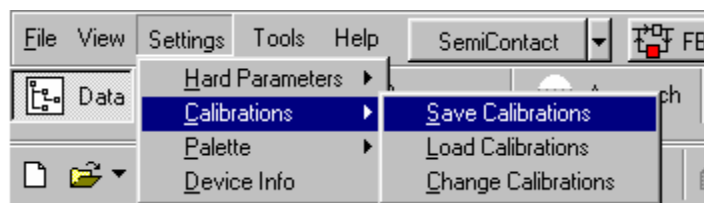
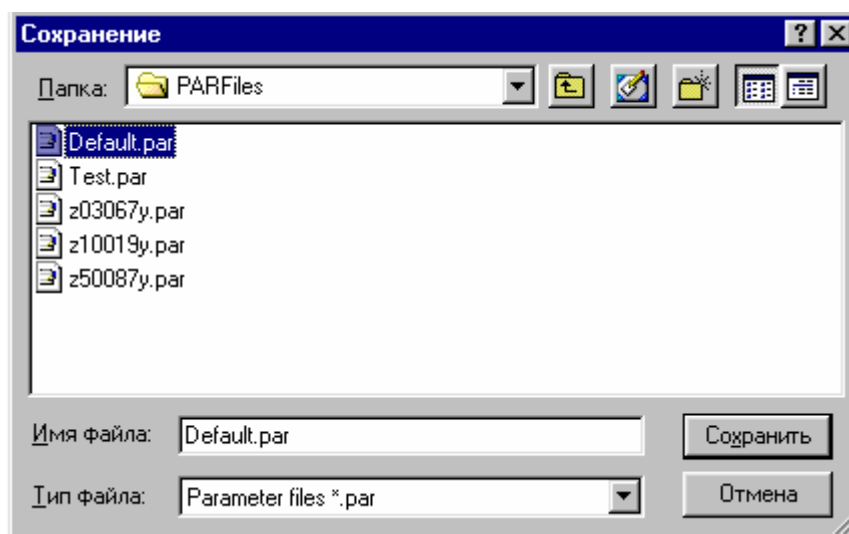

Fig. 2-13
Fig. 2-14
5. If you plan to work with the same scanner for a long time, you can save its parameters in Default.par to make it automatically loaded once you run the program. To do so, after you load the required file as described above (see items 1-4), press **Settings -> Calibrations -> Save Calibrations** (Fig. 2-13). Save file as Default.par (Fig. 2-14).